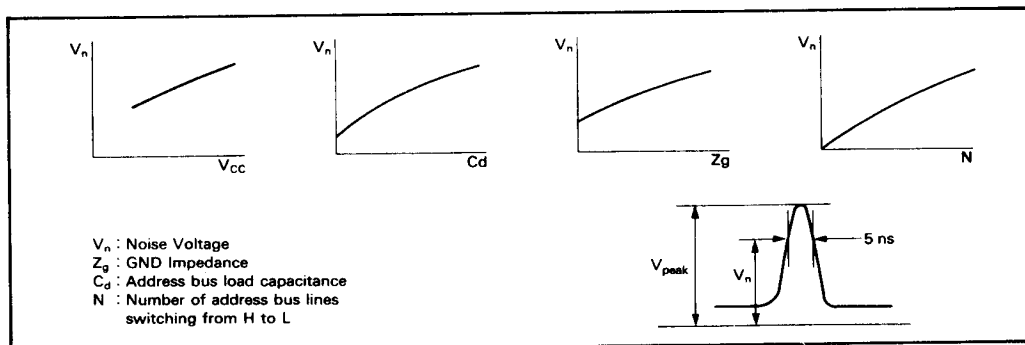

Figure 21. Dependency of the Noise Voltage on Each Parameter
Figure 21 shows the noise voltage dependency on the each parameter.
1. Control each parameter such as C_d , V_{CC} , Z_g in figure 21, and the noise level is reduced to be allowable.